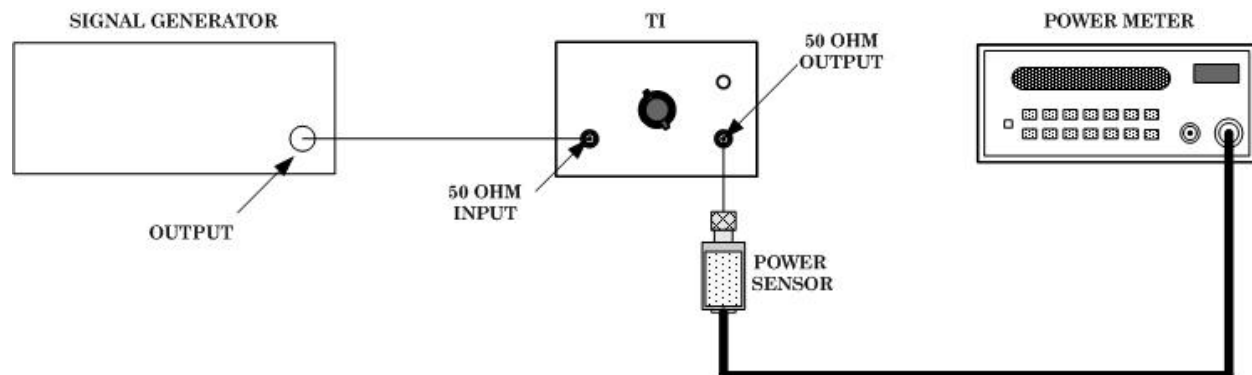

Figure 3. High Frequency Response Setup.
- (8) Set signal generator output frequency to 500 kHz and adjust output amplitude for a power meter indication of 0.0 dBm.
- (9) Set reference on power meter.
- (10) Set signal generator for output frequencies of 5, 10, 50, 100, and 150 MHz and record power meter deviations at each frequency.
- (11) Set signal generator output to minimum and disconnect power sensor from signal generator.
- (12) Connect equipment as shown in figure 3.